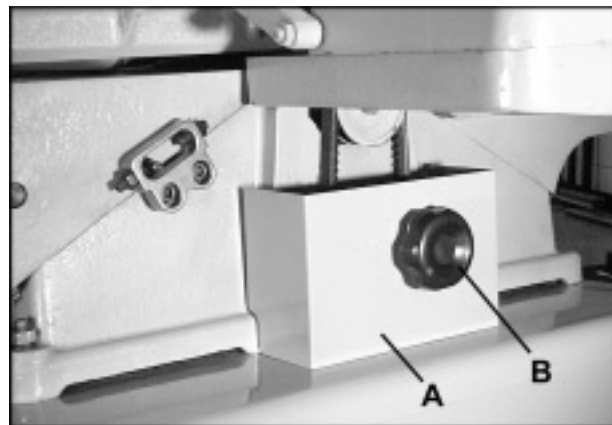

FIGURE 5
Place the pulley guard (A) as shown in Figure 5, and secure by screwing on the knob (B).